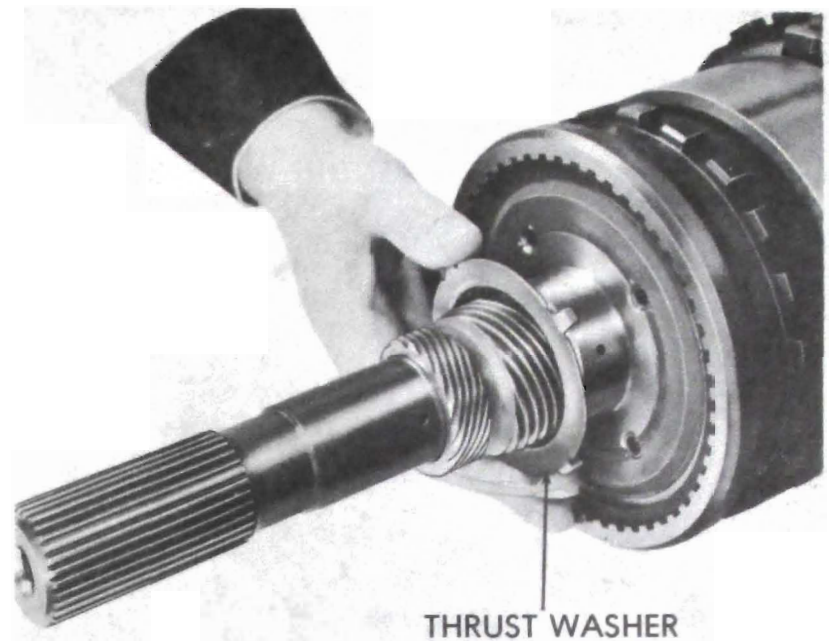

Figure 76-96
17. Remove output shaft to case thrust washer from rear of the output shaft or inside case. See Figure 76-96.